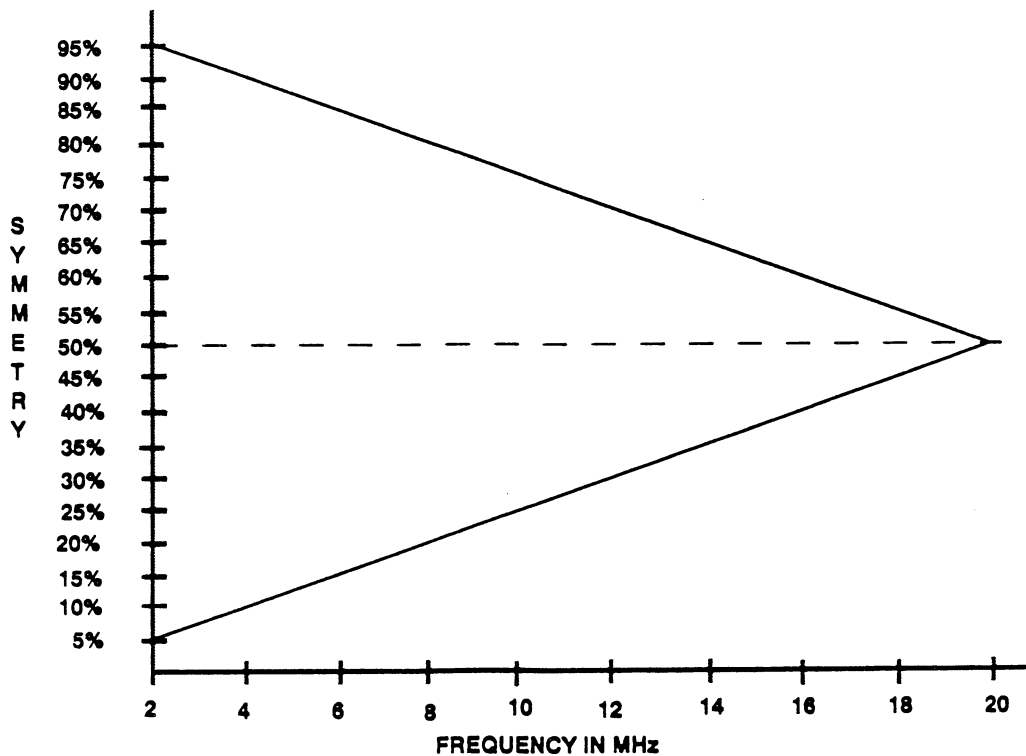

Figure 3-10. 2MHz to 20 MHz Symmetry
Variable symmetry allows the duty cycle of the three standard functions (sine, triangle, and square) to be varied from 5% to 95% in 1% increments (≤ 20 MHz). Use variable symmetry with square waves to produce pulses. Use variable symmetry with triangles to produce ramps. Between 2 MHz and 20 MHz, the minimum and maximum symmetry values decrease linearly to 50% at 20 MHz; see figure 3-10. For example, at 10 MHz, the symmetry range is decreased to 25% to 75%. The
1. Select Symmetry. Press the "SHIFT" (31) and "SYMMETRY" key (7) to display the current symmetry value.
2. Change the Symmetry. Use the Keypad (39) or Knob (42), if enabled (ENABLE indicator (40) lit), to change the symmetry. The Knob increments or decrements the value and automatically enters the new value. When using the Keypad, enter the actual value. Symmetry values are 5% to 90% in 1% increments unless limited by frequency; see figure 3-10.